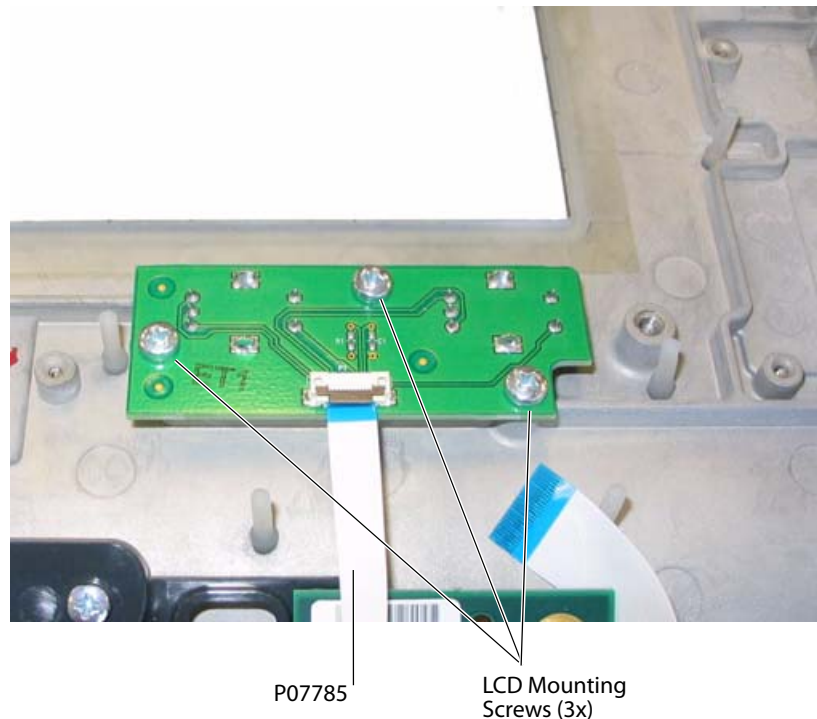

Figure 4.33 TGC PCBA
- 3 Remove the three TGC PCBA screws shown in Figure 4.33.